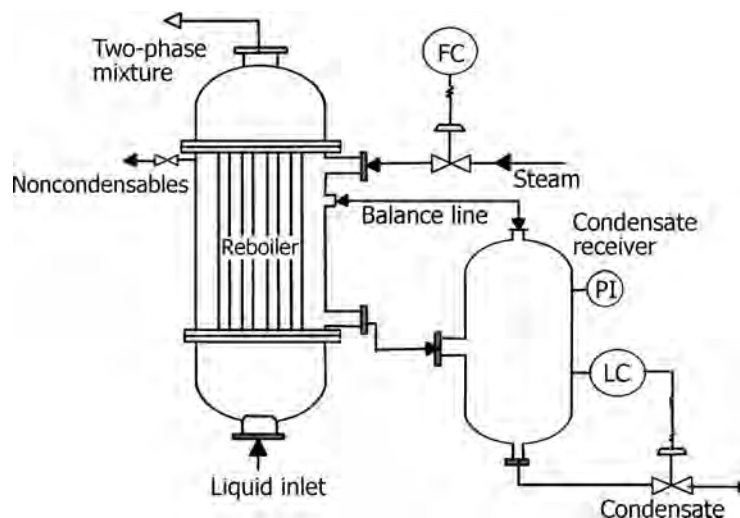

FIGURE 11.2 Condensate removal system for a reboiler.
- A typical diagram of a typical system adoptable to large condensate removable capacities is given as an illustration in Figure 11.2.